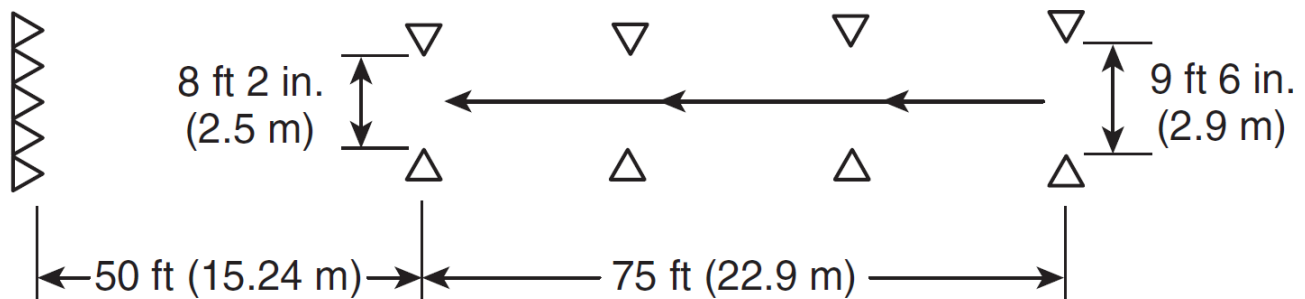

FIGURE A.4.3.5 Diminishing Clearance Exercise.
A.4.3.5: The diminishing clearance exercise measures a driver's ability to steer the apparatus in a straight line, to judge distances from wheel to object, and to stop at a finish line. The speed at which a driver should operate the apparatus is optional, but it should be great enough to necessitate quick judgment. This exercise is to be performed both forward and in reverse with a spotter. The course for this exercise is created by arranging two rows of markers to form a lane 75 ft (22.9 m) long. The lane varies in width from 9 ft 6 in. (2.9 m) to a diminishing clearance of 8 ft 2 in. (2.5 m). The driver should maneuver the apparatus through this lane without touching the markers. The vehicle should be stopped at a finish line 50 ft (15.24 m) beyond the last marker. No portion of the vehicle should protrude beyond this line. Vertical clearance judgment should be evaluated using a prop with a crossbar that is adjustable, based on the vehicle height. During the evaluation, the driver should drive forward and back through the prop with the crossbar at several differing heights, including one that is lower than the top of the vehicle. The prop should not be struck. The intent of the vertical clearance judgment is for proper identification of the furthestmost point in the form of the apparatus. In situations where the apparatus is gaining entry to roadways or limited-height areas, the driver/operator must allow appropriate space ahead of the apparatus in order to avoid striking objects or to avoid extending apparatus into traffic lanes. (See Figure A.4.3.5).